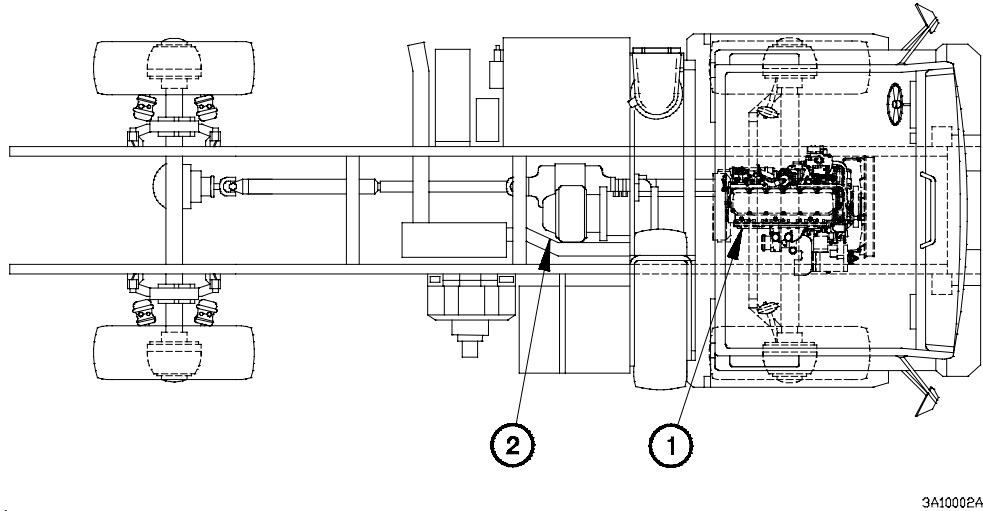

Figure 1-5. Powertrain (Cont)
- a. Engine.** The vehicle is equipped with a Caterpillar diesel engine, model 3116 ATAAC (Air-to Air After Cooler) (1, Figure 1-5), rated at 225 HP.
- b. Transmission.** The vehicle is equipped with an Allison automatic transmission, model MD3070PT (2, Figure 1-5). It is a fully automatic electronically controlled seven-speed close-ratio transmission.
(1) The TEPSS contains microprocessor based electronics, and is located in the instrument panel to the driver's left. The TPSS is located in the instrument panel to the driver's left, while the transmission ECU is located behind the kick panel. The ECU receives information, in the form of electrical signals from the various sensors, processes that information, then sends the appropriate signals to the solenoids which control transmission function. The ECU incorporates a diagnostic program which enables it to identify numerous actual and/or potential transmission problems. The TEPSS and TPSS are capable of displaying diagnostic codes in the Light Emitting Diode (LED) display on the pushbutton shift selector. These diagnostic codes are stored in the ECU for later retrieval. The pushbutton shift selector is used for selecting transmission range. The transmission defaults to Neutral (N) whenever electrical power is removed from the vehicle. The Drive (D) gear selection is used for normal driving conditions. The transmission will engage 2nd gear when D is selected and the vehicle is stopped. As the accelerator is depressed and speed increases, the transmission will automatically upshift through 3rd, 4th, 5th, 6th, and 7th gears. Low gear (1st gear), is available only by manual selection. Selecting a specific gear; for example, 3rd; will prevent the transmission upshifting past the selected gear. This is useful if road or load conditions require lower gear range operation. When road conditions improve or load is reduced, the shift selector can be returned to the normal (D) driving position. When electrical power is applied to the TEPSS and a fault is detected in the transmission controls, the TEPSS will emit an eight second series of beeps. When electrical power is applied to the TPSS and a fault is detected in the transmission controls, "--" will appear in the TPSS LED display. In either case, the transmission will not engage a range (forward or reverse) when D or Reverse (R) range is selected on the pushbutton shift selector. TM 9-2320-365-10 provides full operating instructions for the transmission.
(2) The transmission may include a Power Take-Off (PTO). The PTO powers a hydraulic pump which supplies hydraulic pressure for an 11K self-recovery winch (SRW).